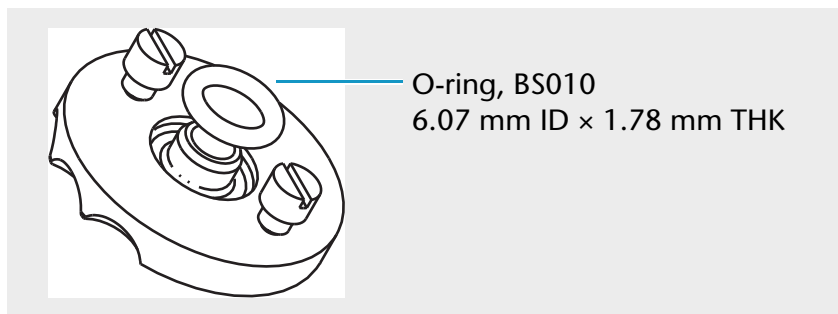

Fig. 62 Rear of the entrance cone, showing its O-ring (BS010)
1. Use a 2.5 mm flat blade screwdriver to remove the O-ring on the back of the entrance cone. Figure 62 shows the location of the O-ring.